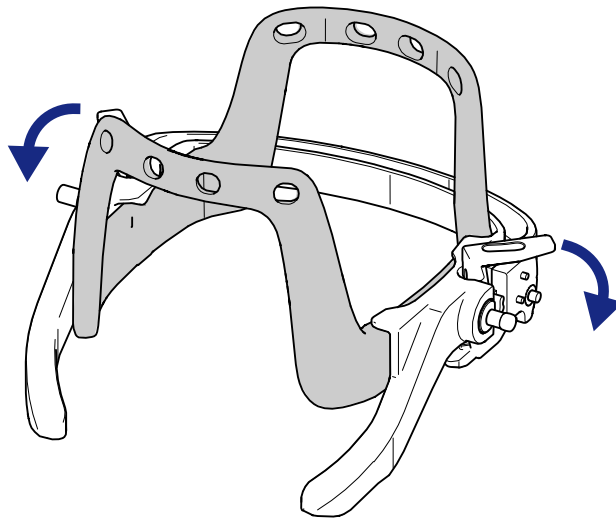

Figure 5.36 Fold down the levers to lock the adapter on the Vantage Head frame
- 5 Turn and fold down the left and right lever at the same time to lock the frame adapter in position, see Figure 5.36.